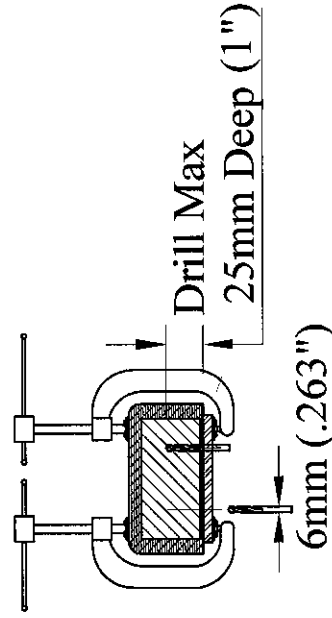

Fig. 3
- If possible drill in place. Fig 3.